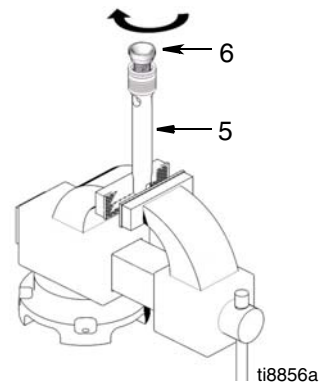

FIG. 11
6. (Fig. 11) Install piston valve (6) to piston rod (5). Torque to 55 +/- 3 ft-lb (74.57 +/- 4 N•m).